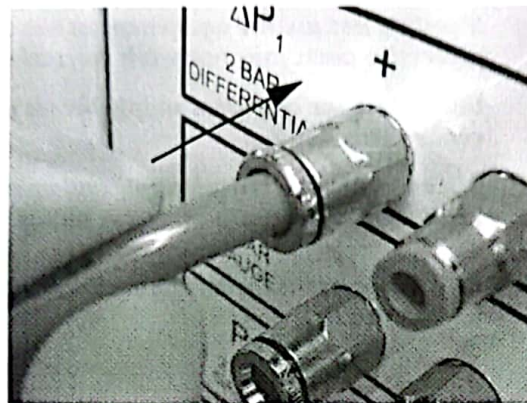
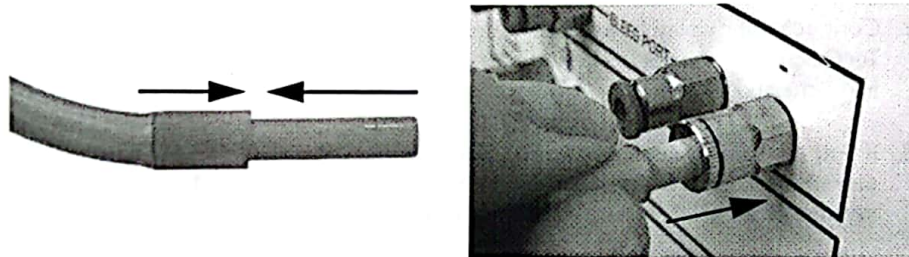

Figure 3 You Can Push 6 mm Outside Diameter Pipes Straight Into the Pressure Connections
Figure 4 For Soft-walled Pipes Use a 6 mm Outside Diameter Plastic Pipe Connector
6. If you have 6 mm outside diameter hard-walled pressure pipes, push their ends straight into the pressure connections of the display (see Figure 3). If you have soft-walled pressure pipes, insert 6 mm outside diameter straight plastic pipe connectors into the ends of your pipe. Now push these into the pressure connections of the display (see Figure 4).